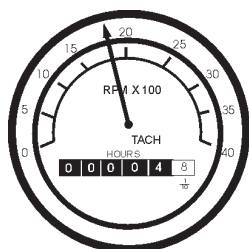

Figure 60. Engine Tachometer Gauge
16. The **tachometer gauge** (Figure 60) will indicate the speed of the engine when the generator is operating. Under normal operating conditions this speed is approximately 1800 RPM's.